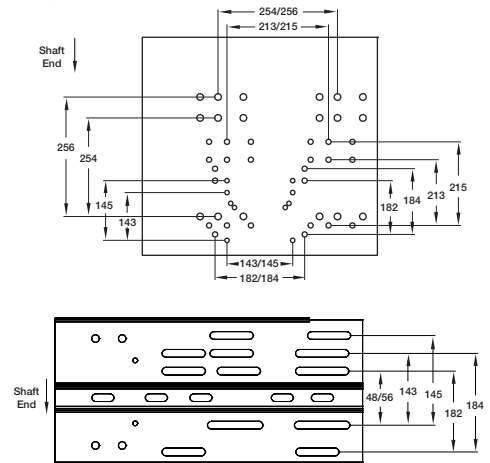

Figure 4 — Motor Mounting Positions Based on Motor Frame Size
1. Refer to Figure 4 for mounting position based on motor frame size. Secure motor to plate using hardware provided.